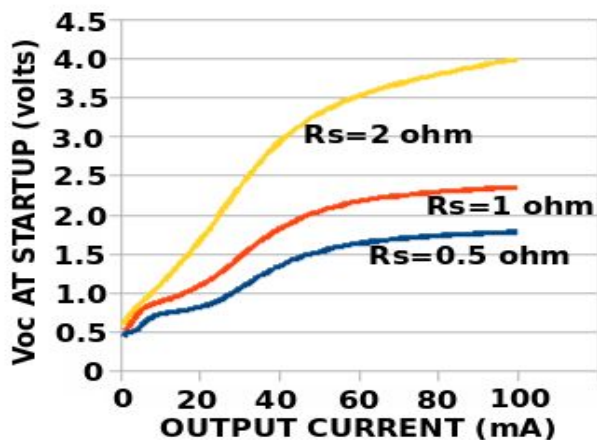

Figure 4 – Open Circuit Voltage Needed to Start Converter for Different Source Impedances and Load Currents
The amount of output power that can be obtained from any thermoelectric device depends upon the open circuit voltage V_{oc} , the internal resistance of the module, R_s , and the nature of the load. Typical R_s values for commercially available thermoelectric modules range from 0.5 Ω to 5 Ω . Lower values of R_s make it possible to deliver more power to the X0122 and enable output voltage regulation for lower input voltages. Figure 4 depicts the start-up voltages required for delivering different output current to a resistive load. The same curves are valid for output setpoints of 1.8V, 3.3V or 5.0V.
A successful TE generation application requires a systems perspective. Assume a model 1261G-7L31-05CQ TE generator module which is manufactured by Custom Thermoelectric² and has an internal resistance of $R_s=1 \Omega$. This device has $j=252$ thermoelements connected in electrical series. Each element has a Seebeck coefficient of magnitude $200 \mu V/^{\circ}C$ so by equation (1), the module can produce $50 mV/^{\circ}C$. Since the electronic converter needs at least 0.4 volts in order to operate, this means that $\Delta T = 8^{\circ}C$ is the minimum required temperature gradient across the module in order to turn on the converter under no-load conditions. Suppose the converter is set for a 5 volt output with a load requirement of 30 mA. From Figure 4, a load current of 30 mA will require an open circuit start-up voltage of about 1.5 volts. This voltage is obtained for $\Delta T=1.5/.05=30^{\circ}C$.